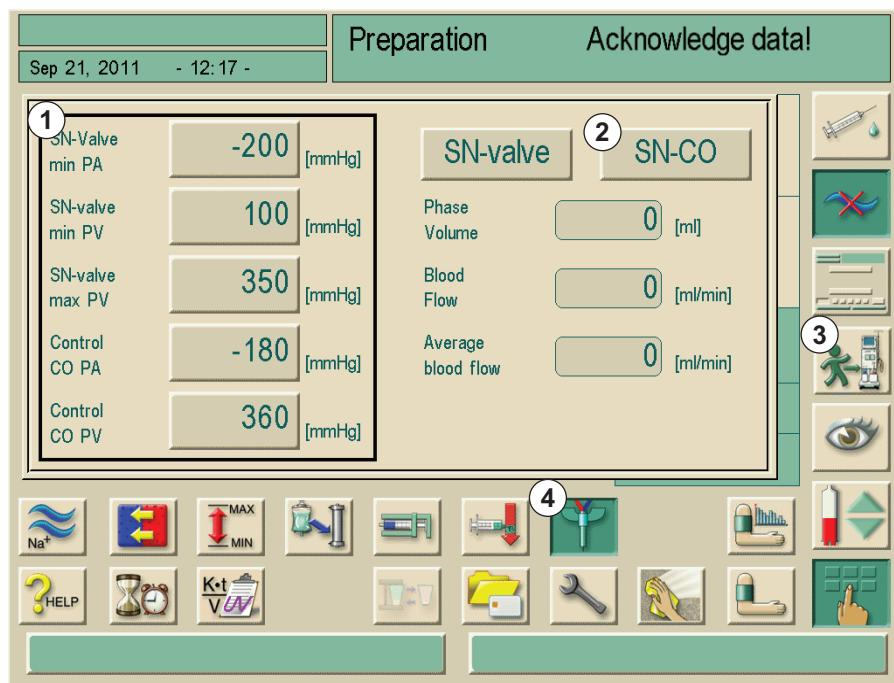

Fig. 10-2 Single-Needle Cross-Over (SNCO)
- Touch field 2 in SNCO window (Fig. 10-2 Single-Needle Cross-Over (SNCO) (165)).
- Disconnect the patient (see chapter 7 End of Therapy (115)).